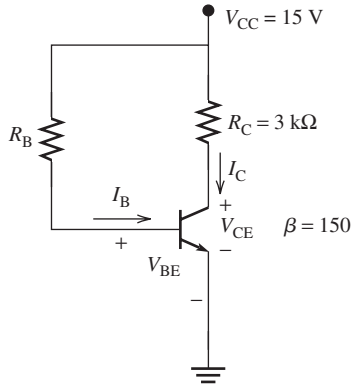

FIGURE P8.41 Circuit for Problem 8.41.
- 8.41** (A) For the circuit shown in Figure P8.41, find the value of the resistor, R_B , which adjusts the collector–emitter voltage to be 6 V.